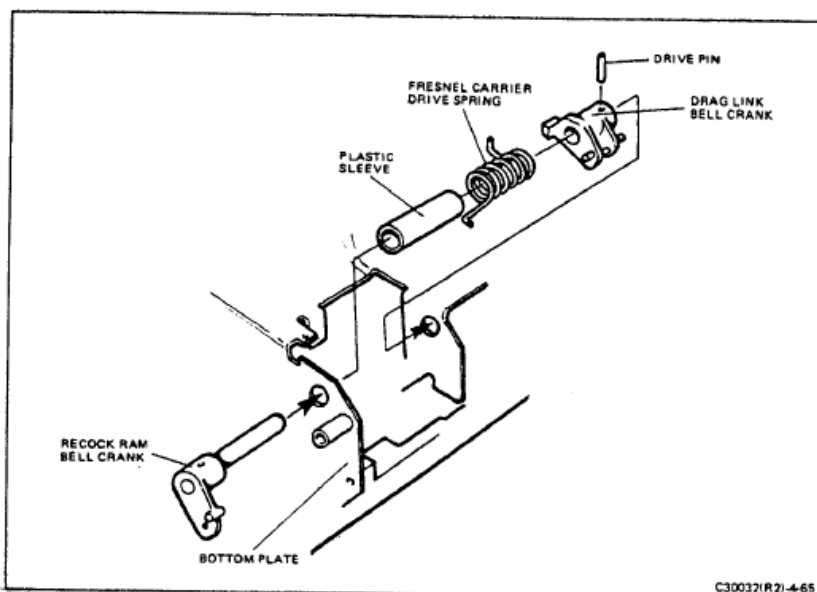

FIGURE 4-65 BELL CRANK (EARLY CAMERAS)
20. See Figure 4-65. Insert the plastic sleeve into the drive spring.
23. See Figure 4-65. Use tweezers to install the drag-link bell crank. The bell crank must be installed as shown on the illustration so that the bell crank will engage the slot in the drag link.